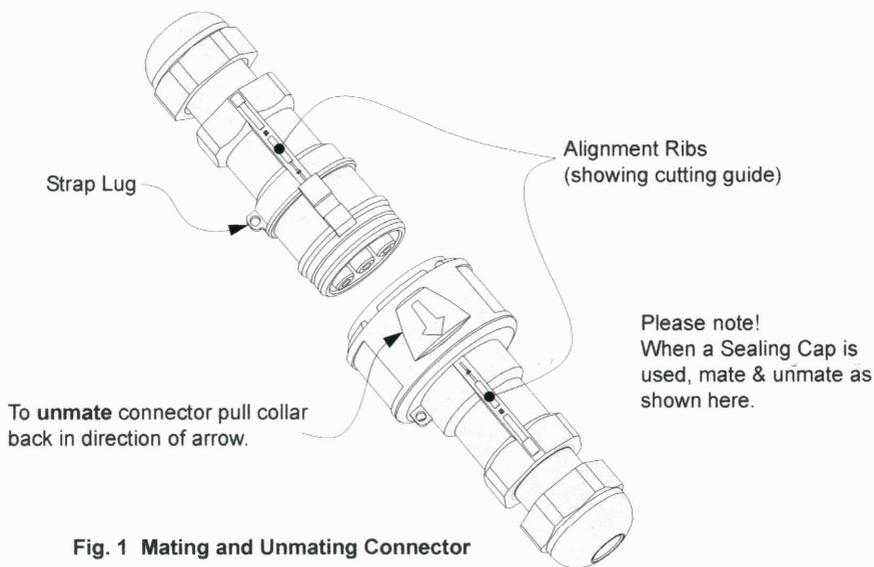
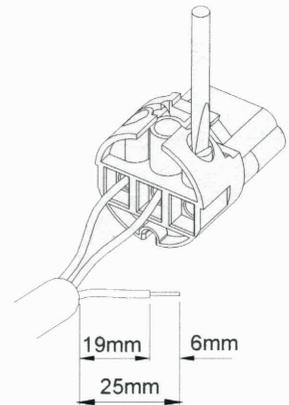

Fig. 1 Mating and Unmating Connector
Fig.3 Cutting Length
- 4 Strip outer cable sheath for 25mm, and the conductor insulation for 6mm (see Fig.3) indicated on Alignment Ribs (see Fig.1 overleaf)